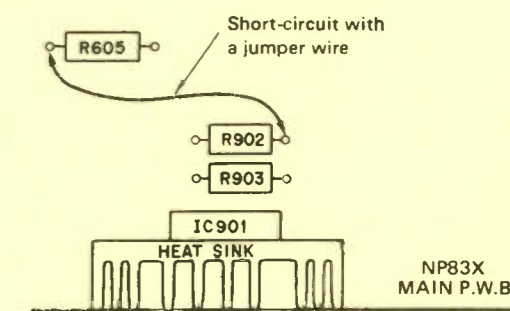

Fig. 2
3. Short circuit between the R605 (B+) and R902 using a jumper wire as shown in Fig. 2.